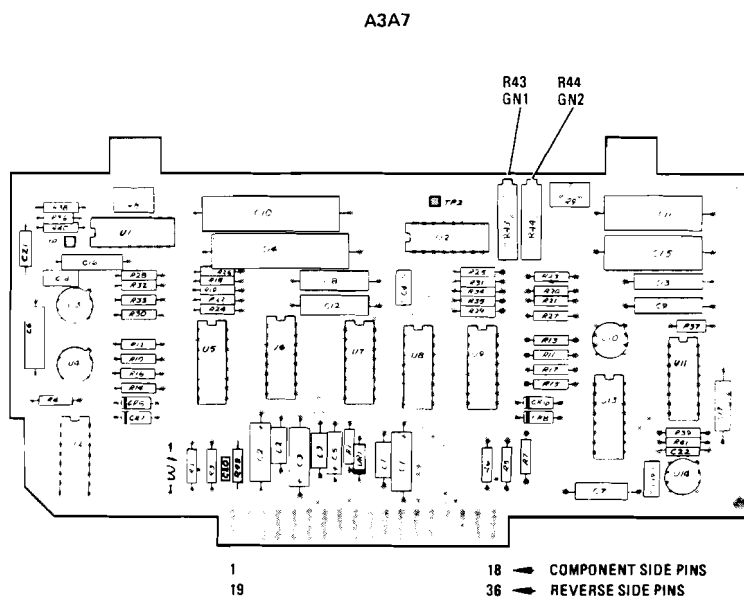

Figure A5-23B. Marker Offset Adjustment Locations (CHANGE 16)
2. Page A5-41, Figure A5-23B. Marker Offset Adjustment Locations (figure supplied in CHANGE 16)
Add the A3A17 component location diagram supplied in this change sheet (Part of Figure A5-23B.
(CHANGE 19)) to the existing Figure A5-23B (supplied in CHANGE 16).
Part of Figure A5-23B. Marker Offset Adjustment Locations (CHANGE 19)